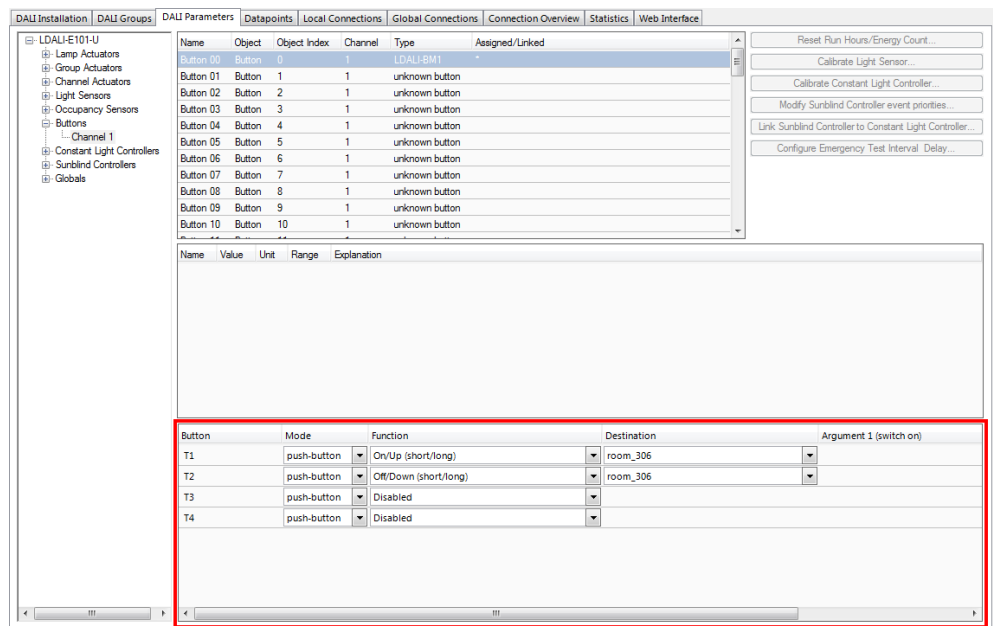

Figure 80: Parameterize DALI button functions.
1. Stay on the **DALI Parameters** tab and select the button object to which you have assigned your DALI button as shown in Figure 80.